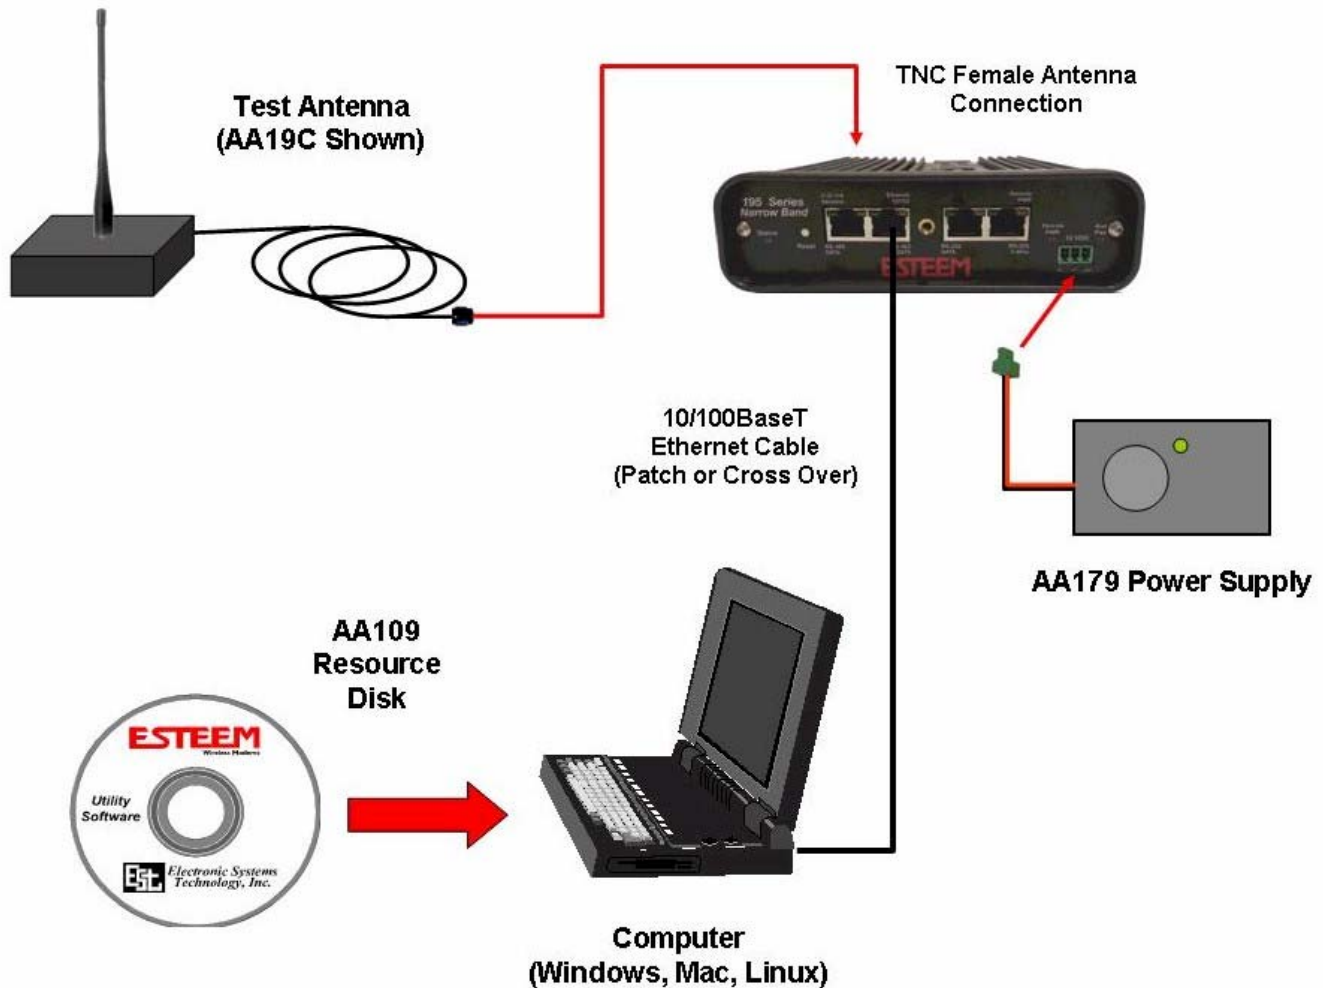

Figure 1 – Basic Configuration Diagram
1. Connect the antenna cable to the TNC connection on the ESTeem Model 195C/M/H (Figure 1).
Note: The ESTeem Resource Disk is a stand-alone copy of the ESTeem Web site (Figure 1). Navigation of the Resource Disk is as simple as using your web browser. All technical documentation, User's Manuals and the ESTeem Utility Program are available on the disk.